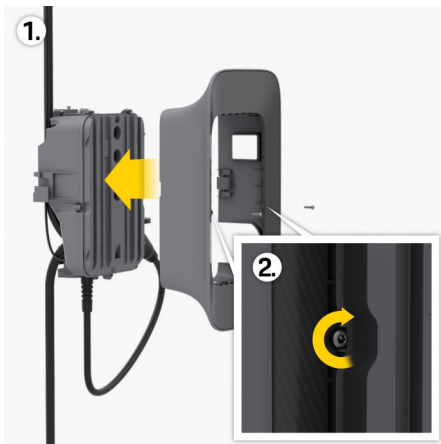

Fig. 17: Fastening the design frame
3. Loosen screws on the left and right edge of the design frame **2** ▷ (Fig. 17).